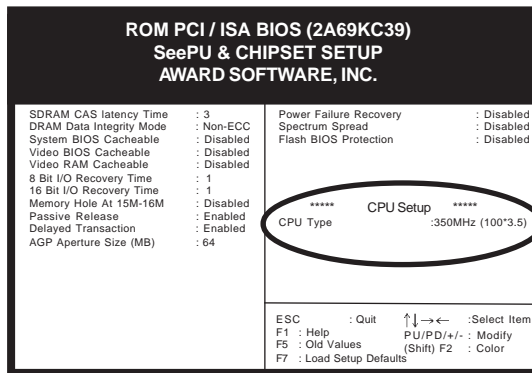

Figure 2-2
2. Move the cursor to *SeePU* & Chipset Setup menu and press Enter. Find the CPU Setup commands at the right hand part of the BIOS screen (Figure 2-2) Commands for operating the cursor in BIOS are found at the lower right of the BIOS screen.